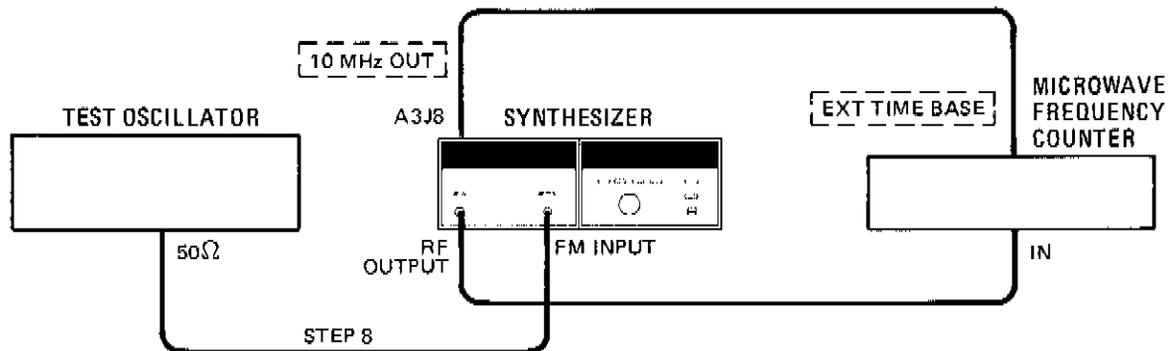

Figure 3-3. Operator's Frequency and Modulation Checks Test Setup
3. Press one at a time, the four FREQUENCY RESOLUTION keys **9** and the Frequency Resolution Light Bars **4** should light one at a time and remain lit. Rotate the TUNING control **10** clockwise and then counterclockwise and note that the digits displayed in the FREQUENCY display **3** increase and then decrease in order as the TUNING control **10** is turned. Perform this step as each of the four FREQUENCY RESOLUTION keys **9** are pressed. The first key on the left produces resolution in 100 MHz steps, the second key 1 MHz steps, the third key 10 kHz steps, and the fourth key 1 kHz steps. Pressing the fourth key first will cause all four of the Frequency Light Bars **4** to light and will produce 1 kHz tuning resolution. Pressing the HOLD **6** key causes the Light Bars **4** to extinguish and prevents the TUNING control **10** from changing the frequency displayed.
4. Connect the microwave frequency counter to the Synthesizer as shown in Figure 3-3.
8. Connect the test setup as shown in Figure 3-3. Set the test oscillator's frequency to 2 MHz.